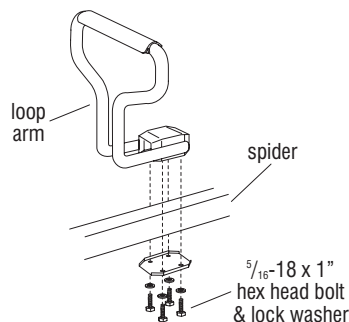

Figure 11
1. Place the "yoke" of the loop arm onto the beam as shown (Figure 11).
3. Secure the arms to the beam using a yoke plate and four 5/16-18 x 1" hex head bolts and lock washers (Figure 11).